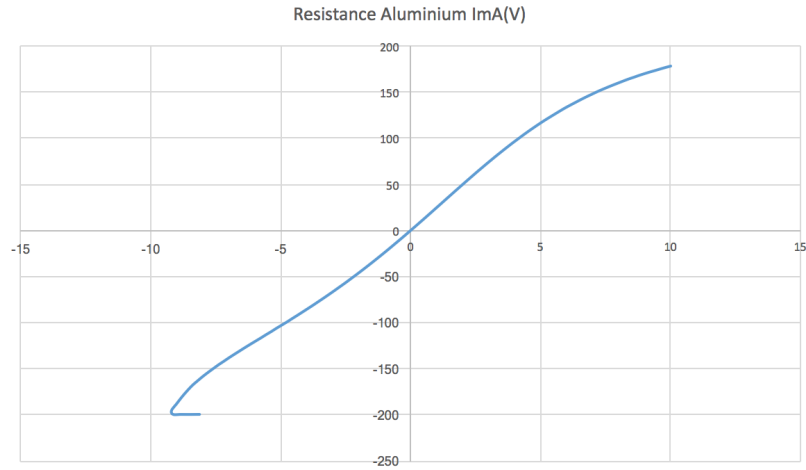

Figure 8: Measurement of the aluminium resistance.
- Figure 8 shows the resistivity of the aluminium resistance